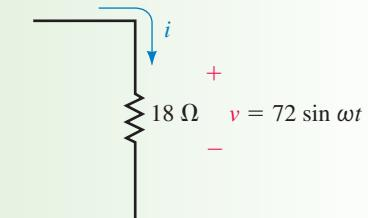

FIGURE 18–3
In Chapter 16, we saw that when a resistor is subjected to a sinusoidal voltage as shown in Figure 18–1, the resulting current is also sinusoidal and in phase with the voltage.
The voltage and current phasors may be shown on a phasor diagram as in Figure 18–2.
Refer to the resistor shown in Figure 18–3:
- b. The voltage and current waveforms are shown in Figure 18–4.
- c. Figure 18–5 shows the voltage and current phasors.